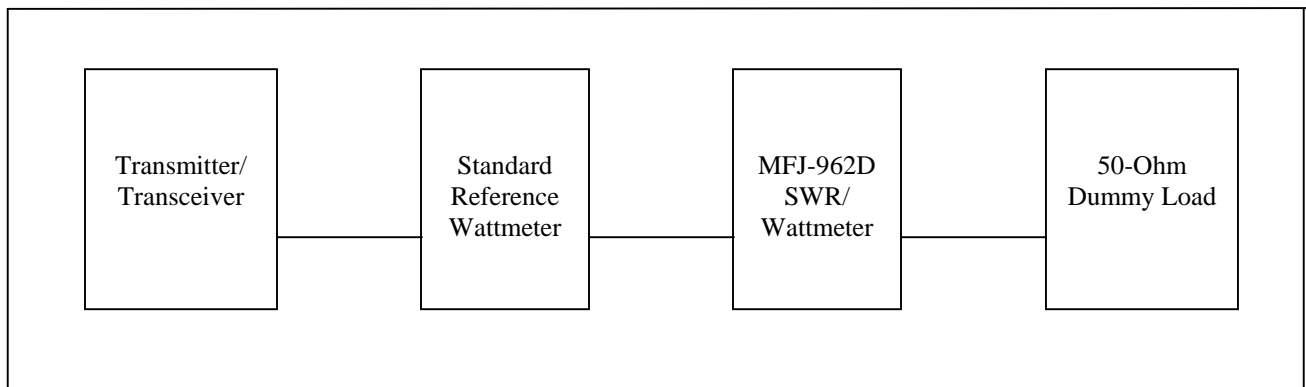

Figure 1: Test Setup
1. Refer to *Figure 1* for the Test Setup and refer to the PCB layout in *Figure 2* for trim pot location.
3. Connect the Test Setup equipment as shown in *Figure 1*. Use a 50-ohm dummy load for the antenna. Set the Transmitter to the 14 MHz in the 20-meter band.